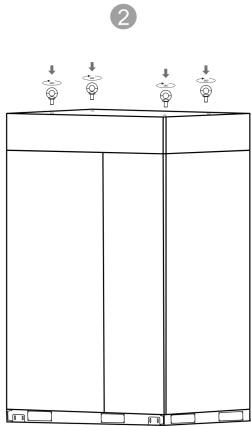
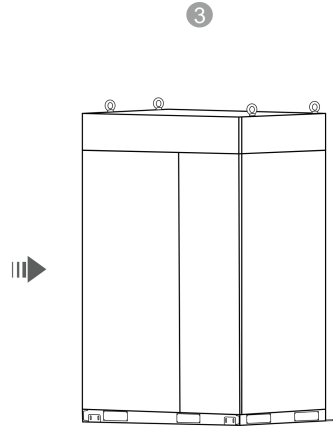

Figure.2
Figure.3
2. Insert the four eyebolts into holes on the top f the machine and then turn them clockwise until they are secured firmly. See the Figure.2 and Figure.3.